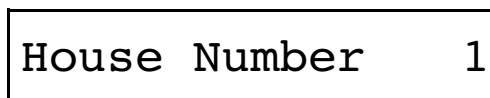

Figure 1. Setup Screen.
*Setup and Calibration* screen for viewing appears (**Figure 1**).